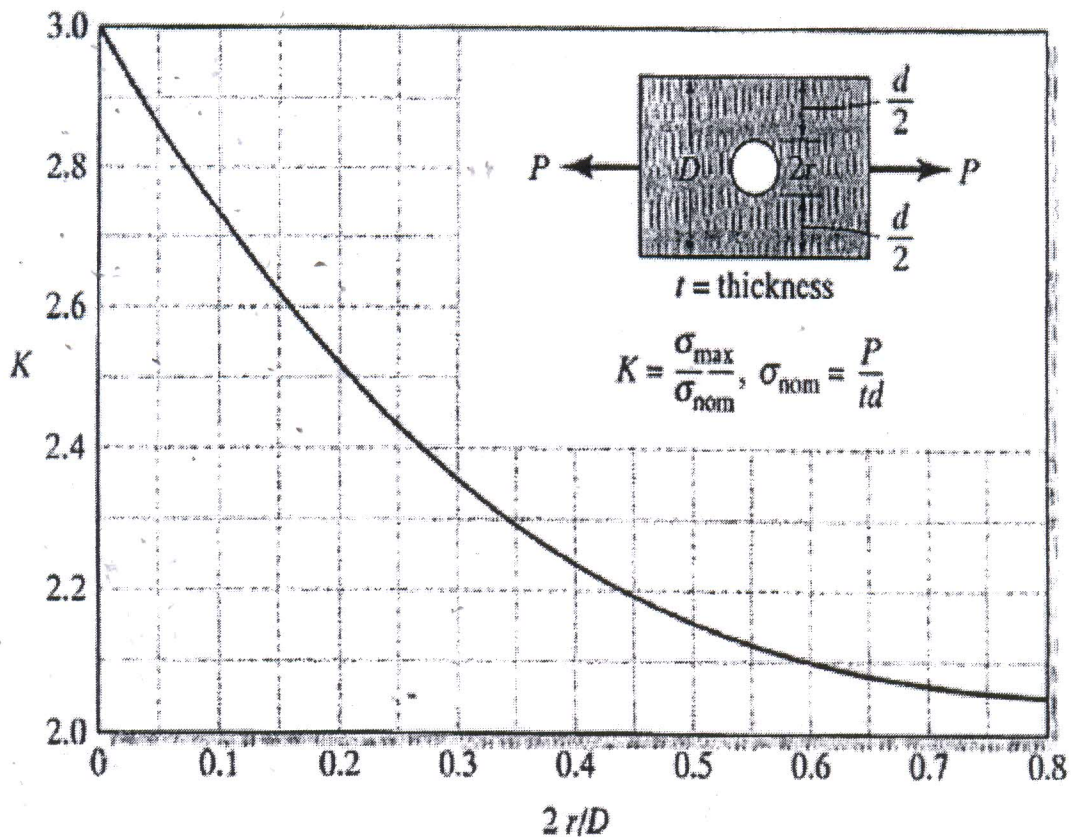

Figure 2
- (a) A 50mm length (L), 10mm width (D) rectangular plate has a 5mm diameter (d) central hole given in Figure 1. The allowable stress due to applying a tensile stress is 700 MPa. Find the maximum tensile force, P that can be applied if thickness (t) of the plate is 5mm. Find the K from Figure 2.